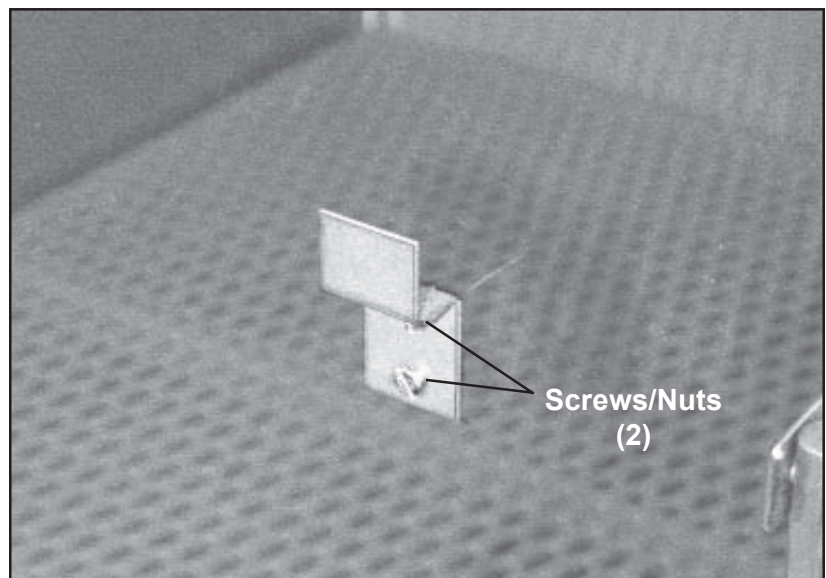

Figure 85. Latch Connector Rest
2. With a flat-blade screwdriver and a 11/32-in. wrench, remove the two screws/nuts that hold the rest to the door (Figure 85), and remove the rest.